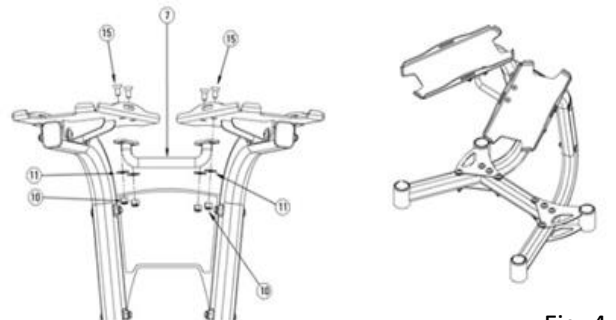

Fig. 4
Install the center plate (17) to both stand legs (4) using the hardware shown in figure 4.